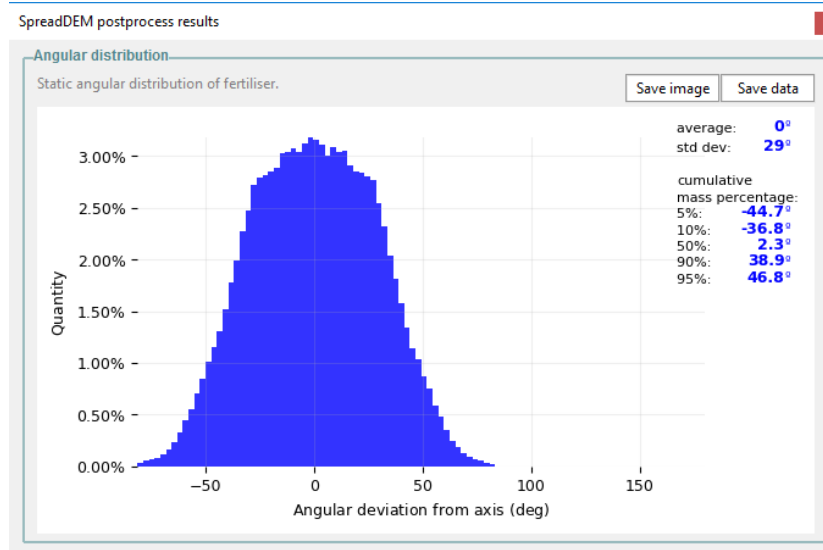

Figure 36. Angular static distribution.
- **Angular and radial distributions:** these two graphs can be also generated based on the static spread pattern (Figures 36 and 37). They are useful to better analyze the average flying distance and the angular interval with higher densities. Again, the images and data of these graphs can be exported.